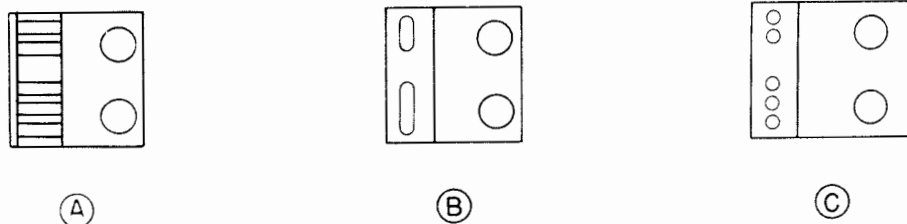

Figure 22
3.10 Tape Retaining Lid Plate: The three types of plates in use on tape retaining lids are shown in Figure 22. Either regular or chadless perforated tape may be used with the types shown at A or B, but only regular perforated tape can be used with the type shown at C. Type A can also accommodate spliced chadless tape.